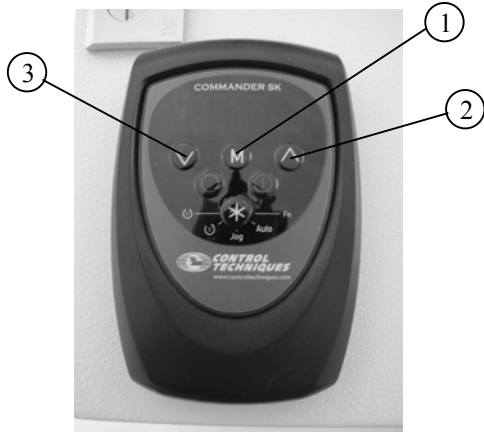

Figure 12
1. Press the M, mode key, (Figure 12, item 1) on the keypad to enter the programming mode. A flashing 01 will be displayed.
2. Press the up arrow key (Figure 12, item 2) until parameter 03, acceleration, is displayed.
4. Use the up (Figure 12, item 2) and down (Figure 12, item 3) arrows to change the acceleration rate. Acceleration is displayed in seconds.
2. Press the up arrow key (Figure 12, item 2) until parameter 04, deceleration, is displayed.
2. Press the up arrow key (Figure 12, item 2) until parameter 63, on delay, is displayed.
4. Use the up (Figure 12, item 2) and down (Figure 12, item 3) arrows to change the delay rate. On delay is displayed in 1/10th of a second. (A value of 10 = 1 second)
2. Press the up arrow key (Figure 12, item 2) until parameter 64, off delay, is displayed.
4. Use the up (Figure 12, item 2) and down (Figure 12, item 3) arrows to change the delay rate. Off delay is displayed in 1/10th of a second. (A value of 10 = 1 second)